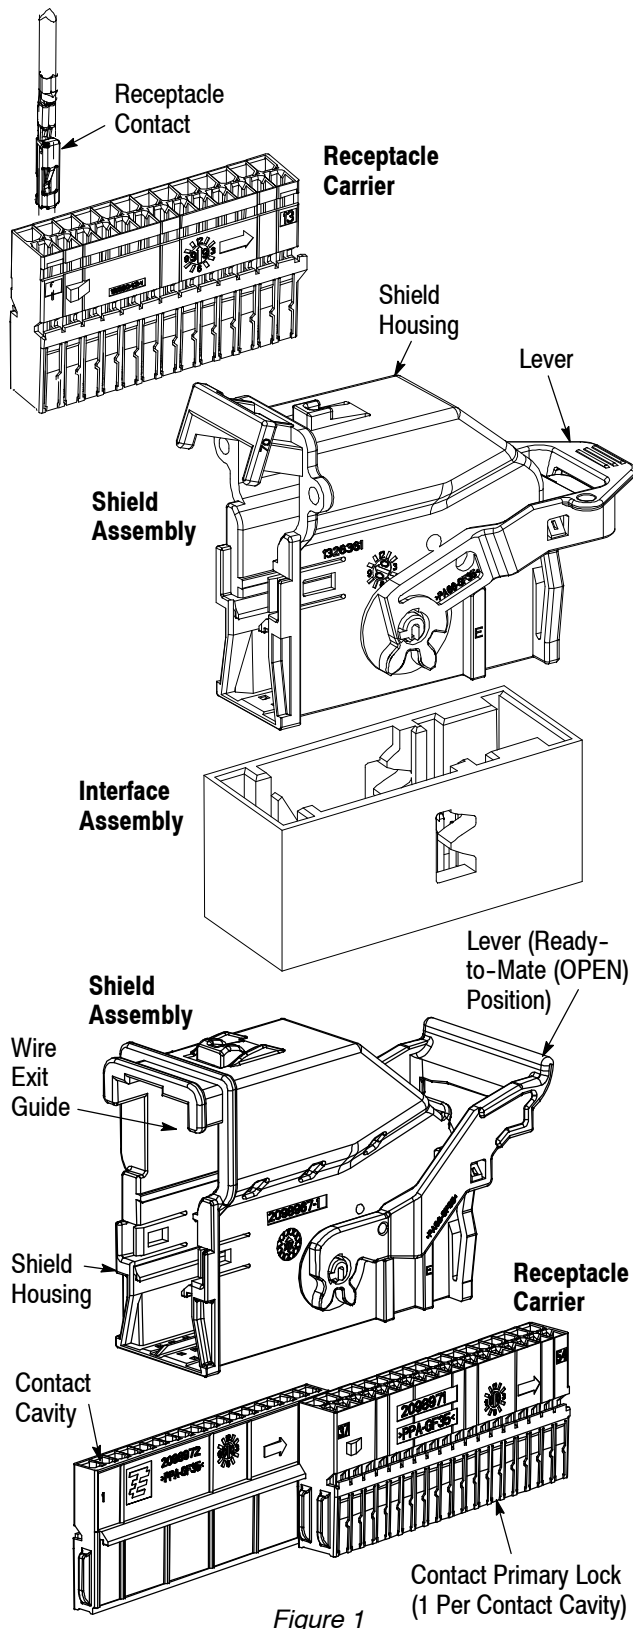

Figure 1
The 0.64 mm LAC plug assembly consists of a shield assembly and one or more receptacle carriers (Figure 1). The receptacle carrier and shield assembly are packaged and sold separately. Only TE Connectivity (TE) 0.64 mm receptacle contacts (in accordance with the customer drawing and Application Specification 114-13006) can be used with this connector system. The connector is designed to mate with Micro Quad-Lock System (MQS) headers or engineer recommended interfaces.
1. For connectors with multiple receptacle carriers, slide the receptacle carriers together. Refer to Figure 1.
- Added new artwork to Figure 1